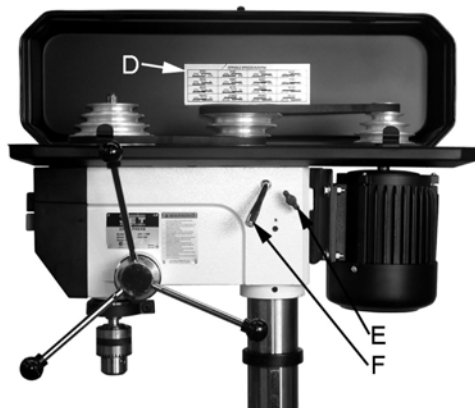

Figure 11
A spindle speed and pulley/belt arrangement chart is found on the inside of the pulley cover (D, Fig. 11). The chart is also shown in Figure 12. Refer to this chart whenever changing speeds.
2. Loosen two bar knobs (E, Fig. 11) found on each side of the head assembly.
3. Rotate the tension adjuster clockwise (F, Fig. 11) to bring the motor base as close to the head as possible.
5. Rotate the tension adjuster counterclockwise (F, Fig. 11) to tension the belts.
6. Tighten two bar knobs (E, Fig. 11). Belts are properly tensioned when finger and thumb pressure midway between the two pulleys causes approximately $\frac{1}{2}$ " deflection.